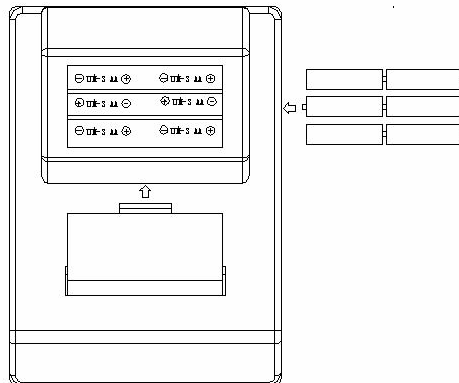

FIGURE 4
2. The battery compartment is located at the bottom side of the meter (Refer to Figure 4). Flip the meter over so that the bottom side is facing up. Lift the battery cover to expose the battery compartment.